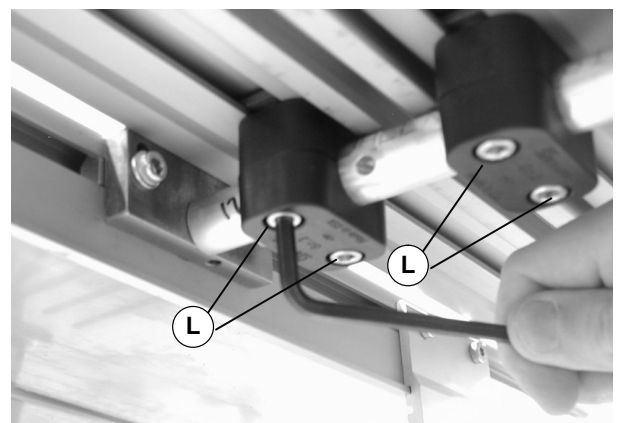

Figure 11
10. Adjust horizontal position of table. Tighten clamp screws (L of Figure 11).